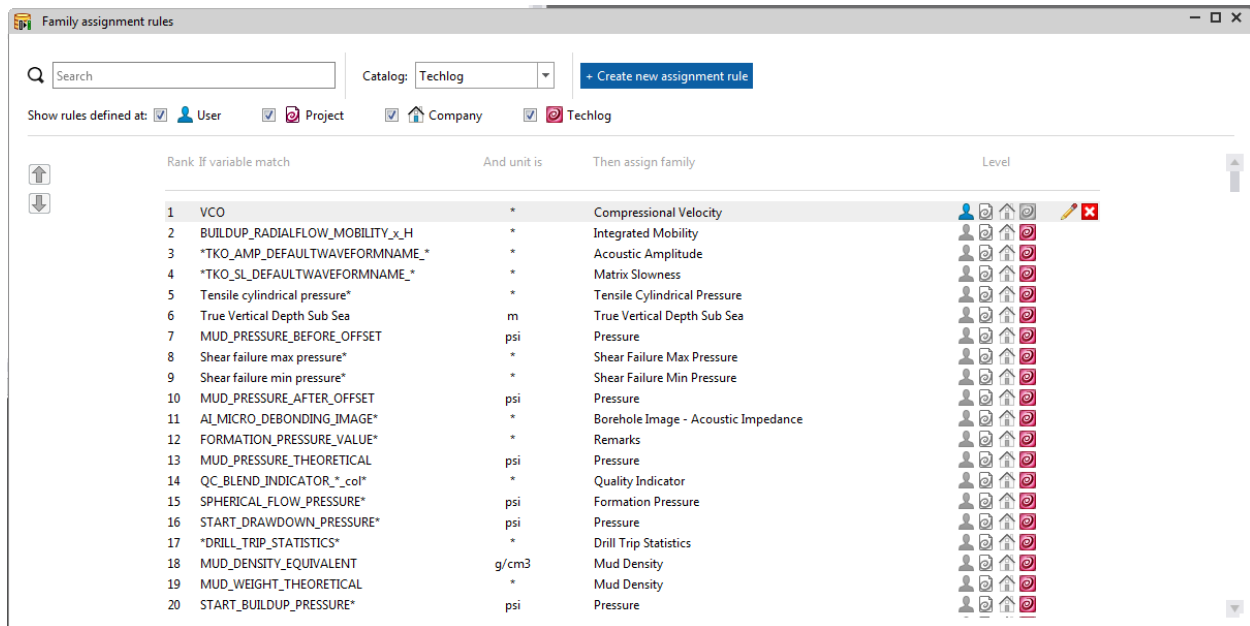

Figure 12: Family assignment rules window.
- d. The Family assignment rules window will appear, showing the list of existing rules. Click on the blue Create new assignment rule button (Fig. 12).
- f. Close the Family assignment rules window (Fig. 12).